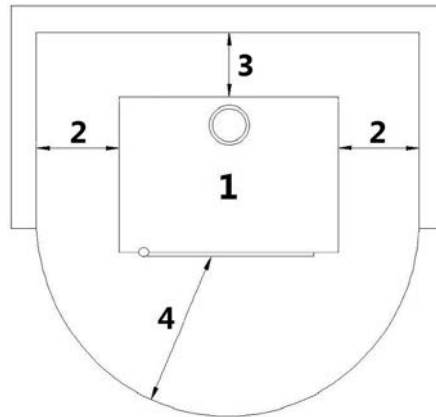

Fig. 31 - General installation
LEGEND	Fig. 31
- It is obligatory to install the stove away from walls and/or pieces of furniture, with a minimum air flow of 300 mm on the sides and 200 mm on the back, to enable an efficient appliance cooling and a good distribution of heat in the room (see **Fig. 31**).
- If the walls are made up of flammable materials, check the safety distances (see **Fig. 31**).